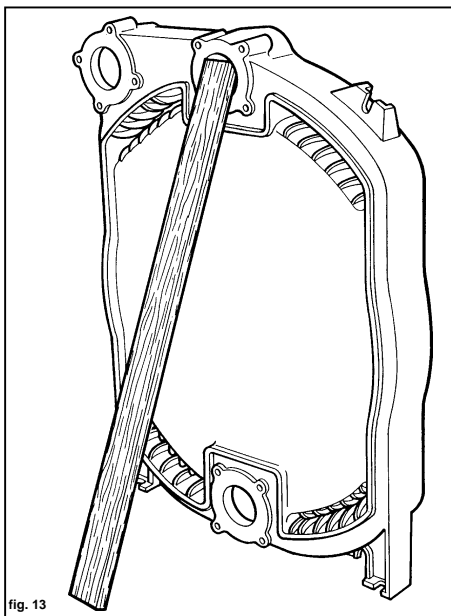

fig. 13
- 1 (fig. 13) Rest the rear element against a wooden batten, ensuring that it is stable for the whole of the assembly operations.